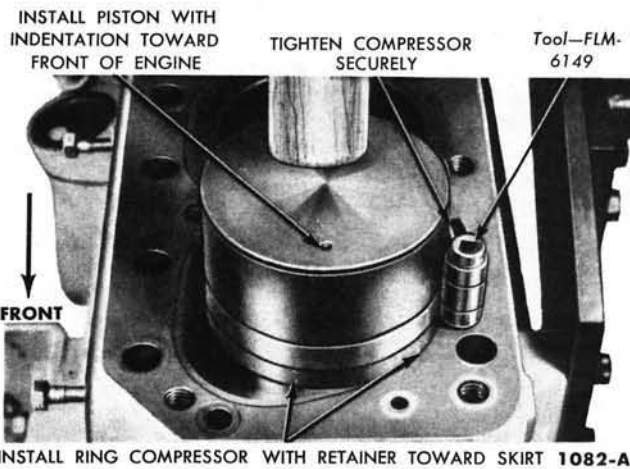

FIG. 43—Piston Installation
2. Make sure the ring gaps are properly spaced around the circumference of the piston. Install a piston ring compressor on the piston and push the piston in with the handle end of a hammer until it is slightly below the top of the cylinder (Fig. 43). Be sure to guide the connecting rods to avoid damaging the crankshaft journals. Install the piston with the indentation in the piston head toward the front of the engine.